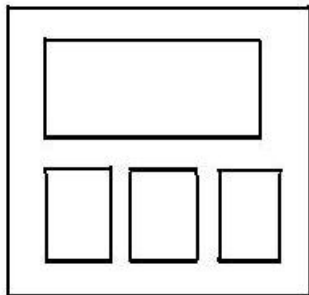

Figure 1
5. Lay out panel and mark with three $\frac{1}{2} \times \frac{3}{4}$ inch rectangles and one hole $1 \frac{1}{4} \times \frac{3}{4}$ inch. You can select your own figuration. Figure 1.